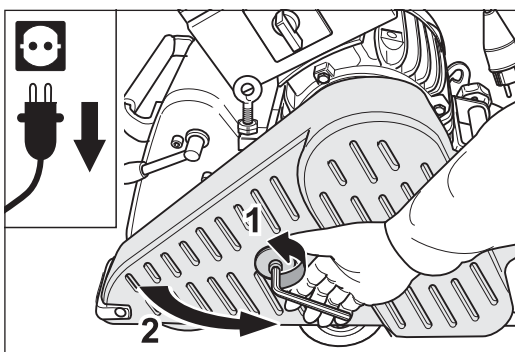

Fig. 49 Pull the power plug out of the socket and open the belt guard.
- 5 Open the belt guard (fig. 49).